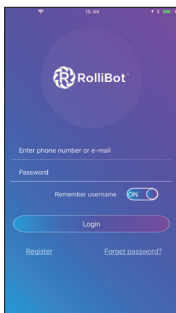

Fig. 1
**Step 2.** Register for an account and return to the app (fig. 1).